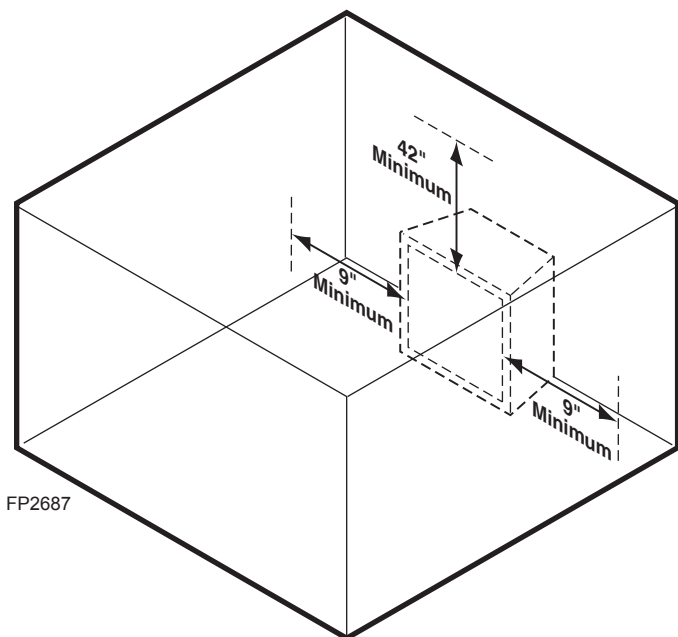

Figure 4 - Clearance and Height Requirements
Ensure that minimum clearances shown in Figures 4 through 8 are maintained. Left and right clearances are determined when facing the front of the firebox.
- Sidewall clearances:** The clearance from the inside of the appliance to any combustible wall should not be less than 9". *Figure 4*
- Ceiling clearance:** The ceiling must be at least 42" from the top of the firebox opening. *Figure 4*